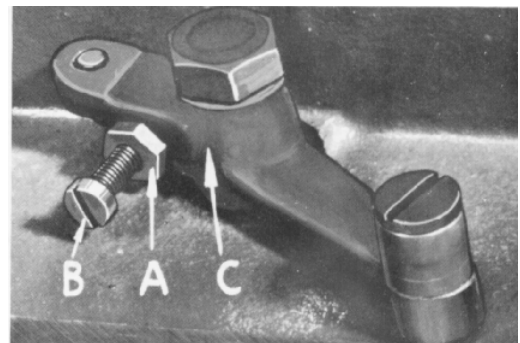
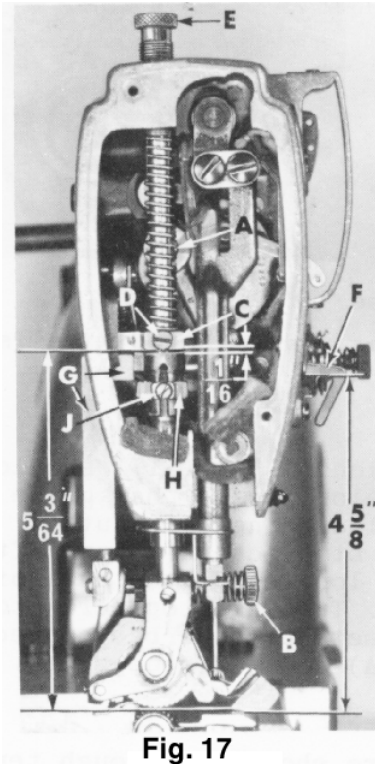

Fig. 16
Fig. 17
The presser spring (A, Fig. 17) should exert only enough pressure on the feed rollers to make the work feed uniformly. To increase the pressure on the preser foot, turn presser spring regulator (B, Fig. 17) in a clockwise direction.
When locating presser bar guide (C, Fig. 17) presser foot must rest directly against throat plate. Proper setting of guide is $5 \frac{3}{64}$ inches between underside of presser bar guide and the top of throat plate (Fig. 17). To obtain this setting, remove pressure from the presser spring (A) and loosen set screw (D). Tap on presser foot to insure it is down against throat plate. Set guide to the $5 \frac{3}{64}$ inch dimension, center foot by turning it so needle enters the middle of its slot and retighten screw (D). Apply pressure to top
Set needle thread pull-up bracket (F) so that underside of wire is $4 \frac{5}{8}$ inches above throat plate (Fig. 17).
Presser bar connection (G, Fig. 17) should be set about $\frac{1}{16}$ inch below presser bar guide (C). Accomplish this by loosening lock nut (A, Fig. 16), and relocating stop screw (B) on lifter lever bell crank (C), located at the back of machine, under bed plate. Turning stop screw to right or left, properly sets presser bar connection. Tighten lock nut (A) to lock stop screw.
Tension release should be set so as not release when sewing over seams or when presser foot is raised. Adjustment of tension release cam (H, Fig. 17) and in and out position of tension assembly are required for proper operation.
The tension release cam (H, Fig. 17) should now be positioned by loosening set screw (J) and then rising or lowering cam (H) to suit the sewing conditions. The average release point is between 1/4 and 5/16 inch of presser foot lift above the throat plate. Tighten tension release cam set screw securely.